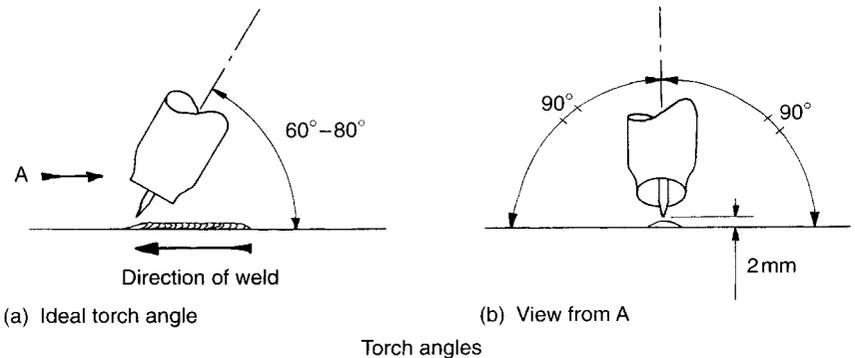

Fig. 8.3
**Either:** When you are welding, torch angle and the distance between your tungsten and the surface of your weld pool are very important to help you to maintain an even and clean gas coverage. I will assume that you have read 'Setting up your equipment' in Chapter 7 and that the piece of scrap steel in front of you is free from contamination, e.g. rust, oil, paint. Look at the ideal torch angles in Fig. 8.3 and practice holding them. Relax and ensure you are comfortable before you start welding.
**FP:** Gently press your foot pedal down until your arc comes on. If you have set an argon pre-flow time it will be delayed by the seconds that you have set. Then lift your ceramic off the scrap steel and adjust the angle of your torch without breaking the arc until your torch is at a similar angle to that shown in Fig. 8.3. Once you have your arc established you should be able to increase your amperage by pressing your pedal further down and decreasing and stopping it by lifting it back up.
**HF:** Press the button on your torch and your arc should come on. If you have set a slope in, your arc should slope in over the duration that you have set. If you have set an argon pre-flow time, it will be delayed by the seconds that you have set. Then lift your ceramic off the scrap steel and adjust the angle of your torch without breaking the arc until your arc is at a similar angle to that shown in Fig. 8.3. If you have slope in and slope out controls on your welding set, you will be able to play about with these settings to help give you a more even control over your amperage. For example, if you set your slope in and slope out to 2 or 3 seconds you will be able to press your button on and off during welding.